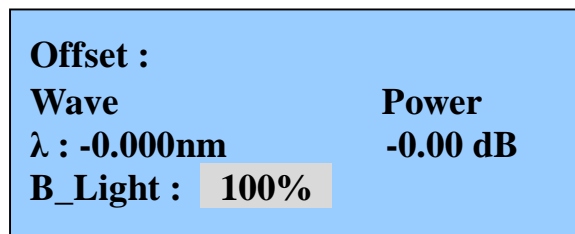

Figure 11 Set the Backlight
- 2 Press the [Active] to move to the backlight parameter, as shown in Figure 11.